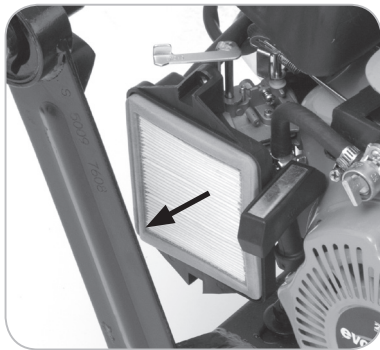

Fig. 15
- Remove the Air Filter Element from the housing for inspection. **(Fig. 15)** If the paper element of the air filter shows signs of severe discolouration and clogging by dirt, dust etc it should be replaced.